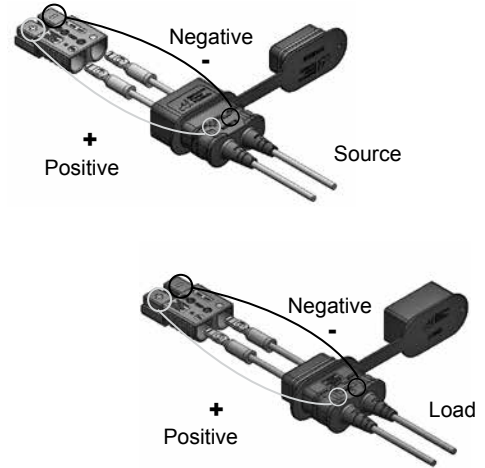

Figure 3
- 6. Align the positive & negative symbols on the SB Boot with the positive & negative symbols the SB housing. (See Figure 3)